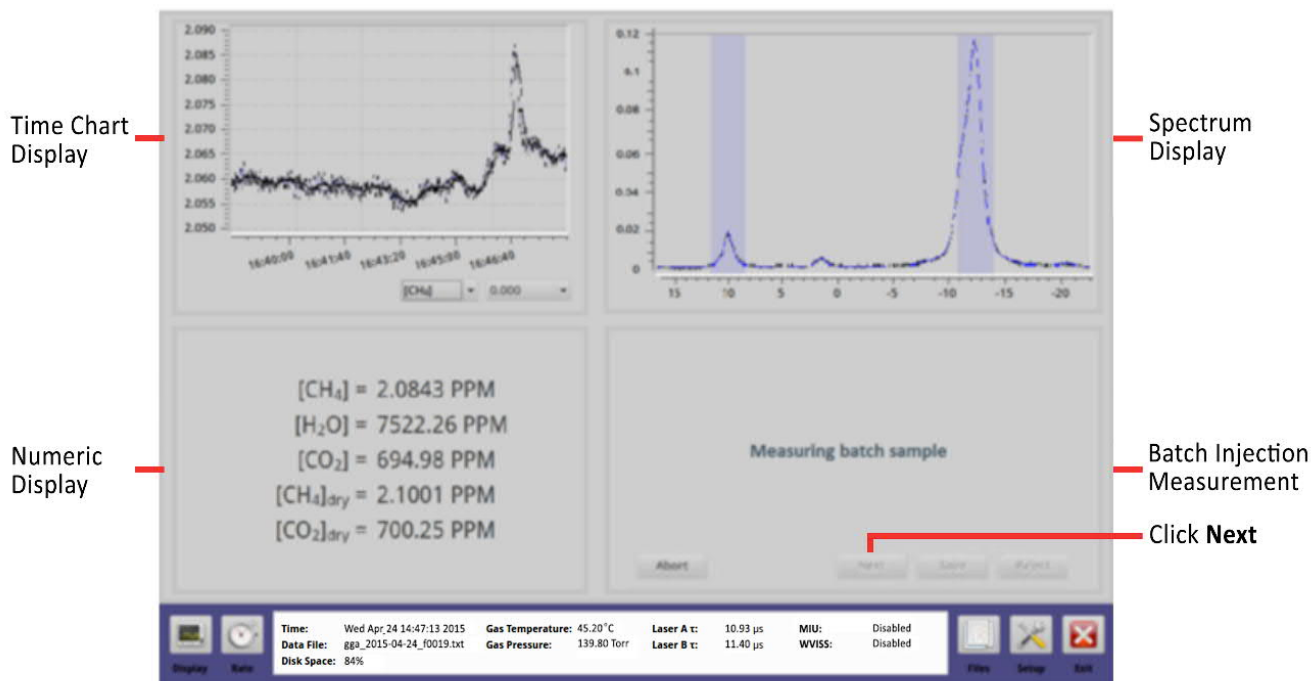

Figure 113: Batch Injection Measurement Screen
5. The *Batch Injection Measurement* screen displays. (Figure 113)
- b. The *Batch Mode Status* display box in the lower right screen shows the status of the current injection. (Figure 113)
- a. Click NEXT in the *Batch Mode Status* display box. (Figure 113)